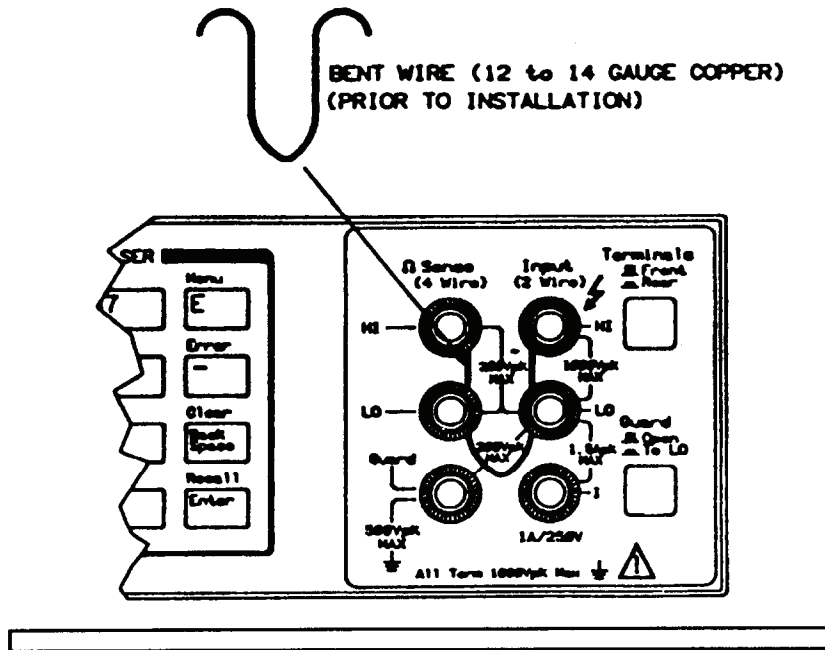

Figure 1. 4-terminal short.
- (3) Press keys as listed in (a) through (g) below:
- (4) Connect a low thermal short across TI front panel **HI** and **LO** terminals as shown in figure 1.
(4) Connect a low thermal short across TI front panel **Input HI** and **LO**.
(5) Press **FUNCTION/RANGE Range** \downarrow key to 10 Ω range and allow 5 minutes for the range relays to thermally stabilize.
(6) Press **MENU Trig** key then **NUMERIC/USER Enter** key. TI indication will be ≤ 00.25007 .
- (7) Remove short from front panel **Input HI** and **LO** and reinstall across rear panel **Ω Sense** and **Input HI** and **LO** using technique shown in figure 1.
- (8) Press **Terminals Front/Rear** pushbutton to **Rear**.
- (9) Press **FUNCTION/RANGE** blue shift key then **OHMF/OHM** key.
- (10) Press **FUNCTION/RANGE Range** \Downarrow key to 10 Ω range.
- (11) Press **MENU Trig** key then **NUMERIC/USER Enter** key. TI indication will be ≤ 00.00007 .
- (12) Remove short from rear panel **Ω Sense** and **Input HI** and **LO**. Release **Terminals Front/Rear** pushbutton to **Front** and press **Guard Open/To LO** pushbutton to **To LO**.